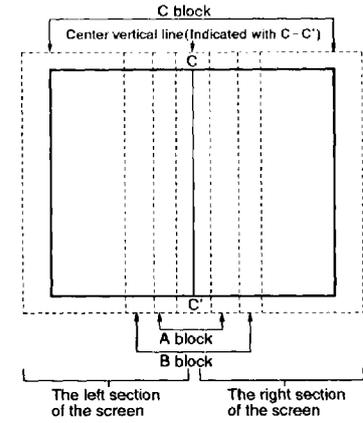

Fig. 7-12 Screen Divisions for Horizontal Adjustment
- For information on blocks which are referred to in some operation columns, see Fig.7-12 and Fig.7-16.
See Fig. 7-12 for reference, in which each of the sections to the right and left to the center vertical line of the screen are divided into three blocks to describe the picture movements.